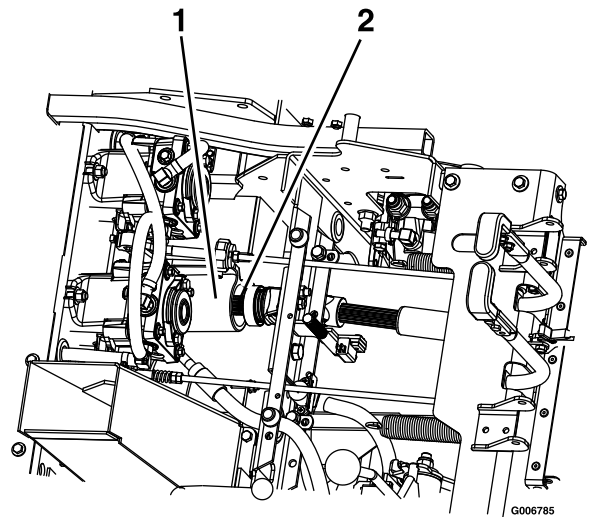

Figure 72
9. Raise the seat and disconnect the drive shaft using the quick coupler at the jackshaft (Figure 72).
4. Raise the seat and install the drive shaft onto the jackshaft (Figure 72)